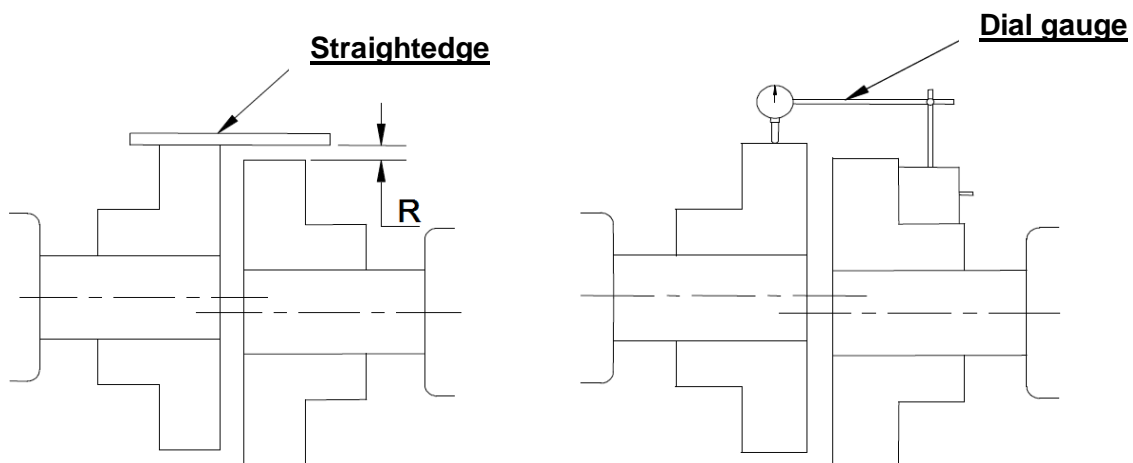

Figure 8.1: Measurement of the radial misalignment
Measure the radial misalignment by laying the straightedge on both hubs (item 1) and measuring the gap between the hubs with the help of a feeler gauge (see figure 8.1). The straightedge must be aligned with the axis of the hub. This measurement should be repeated multiple times until the point with the largest gap has been found. The size of the gap indicates the radial misalignment at that point. The maximal radial misalignment is given at the point of the largest gap. Alternatively, a depth gauge or dial gauge can also be used.